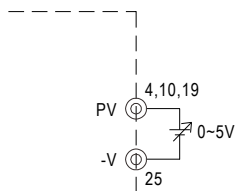

Fig. 3.1 Add on 0~5V external voltage
- (1) Connecting an external DC source between PV(4,10,19) and -V(25) on CN500 that is shown in Fig. 3.1.